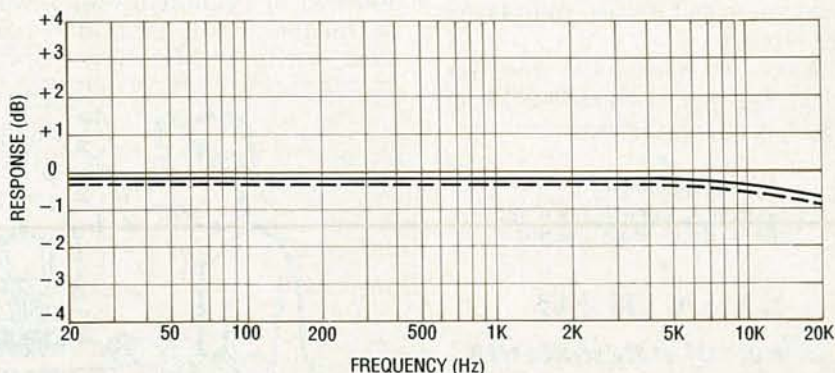

FIG. 8—SIGNAL LOSS OF 40 FEET of 12-gauge Romex cable.
The counter and power-supply circuit is shown in Fig. 8. The timebase for the counter comes from IC17 and IC18, both are
Therefore, if any type of speaker cable could cause frequency-response problems, the high capacitance and the skin effect of 12-gauge Romex should make it the ideal bad example. Another run was made using a 40-foot length of Romex, both into a dummy load and into the test speaker. In the graph of Fig. 8, we see a hefty 1/2-dB droop at 20 kHz, compared to the response at 20 Hz. The overall signal loss and damping-factor degradation are less than those of the smaller cables that are shown in Figure 8, due to the lower resistance of 12-gauge cable.)
Check the power-supply before connecting the voltage tripler. Use a voltmeter to be sure the flyback transformer high-voltage output lead isn't shorted, or a shock hazard could occur; an oscilloscope would be useful. Also, you need some way to measure high voltage; if you don't have a high-voltage meter, you can use a voltage divider with a normal meter, as shown in Fig. 8 with a 100:1 ratio.
**FIG. 8—IF YOU HAVE NO HIGH-VOLTAGE** voltmeter, this RCA focus divider extends the range of a voltmeter with at least a 10-megohm input impedance by 100:1, so it reads up to 20 kilovolts on a 200-volt scale. R5 and R6 are in series, and R6 goes in parallel with both R7 and the DC voltmeter.